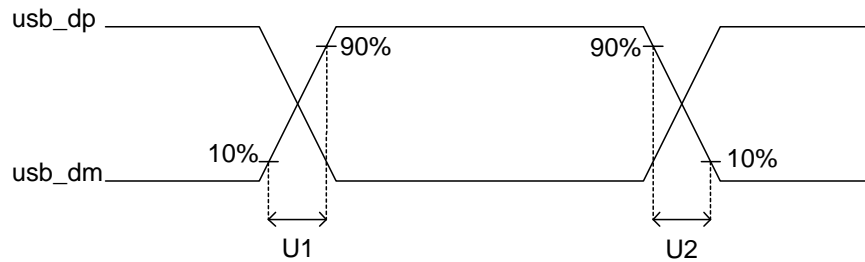
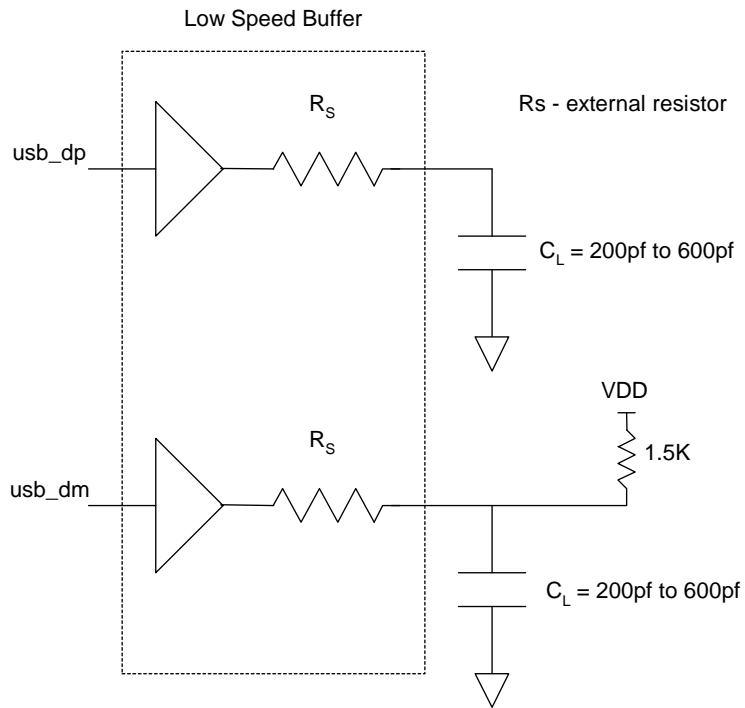

Figure 138: USB differential data
Figure 140: USB low speed load
Table 482 and Table 483 describe the values shown in the USB timing diagrams (Figure 138 through Figure 140).
- 4 Load shown in Figure 140, "USB low speed load," on page 819.